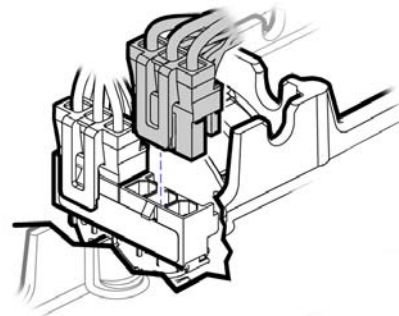

Figure 11-7: Connect CU Motor Harness to Motor
7. Connect (2) CU motor harnesses to motors (one per motor). Rotate each harness as you insert connector so that smaller gauge wires are beneath larger gauge wires. Make sure clip locks over mating feature on motor connector. See Figure 11-7.